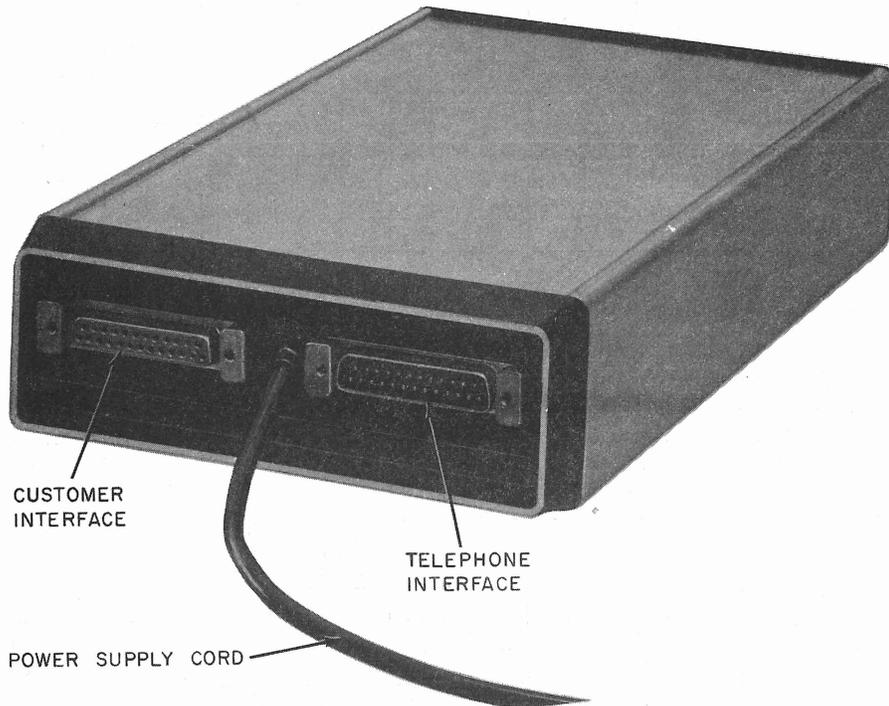

Fig. 4—DS 202SR—Rear View
3.10 The customer interface is accessible through a 25-pin female connector at the rear of the data set (Fig. 4). The pin assignments, lead designations, and lead functions are shown in Table C.
3.24 The telephone interface is accessible through a 25-pin male connector at the rear of the data set (Fig. 4). The pin assignments, lead designations, and lead functions are shown in Table D.